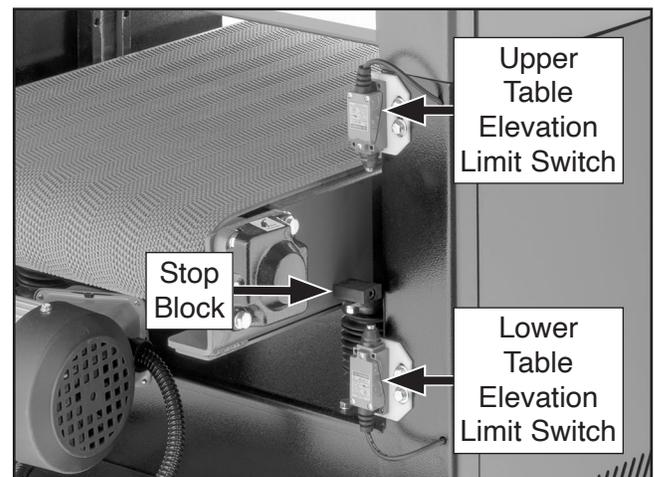
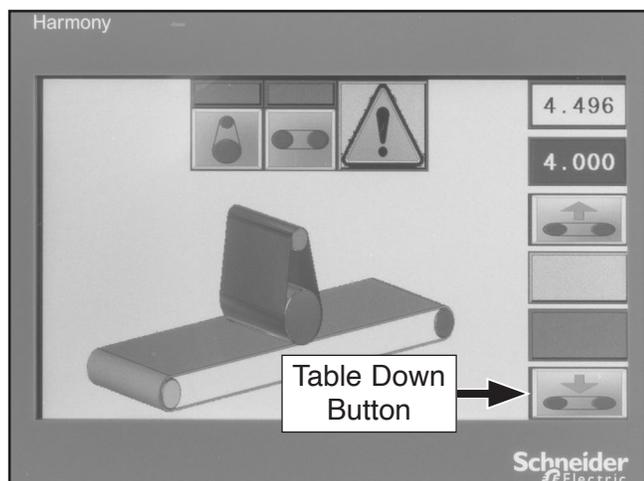

Figure 37. Location of table elevation limit switches and stop block.
Figure 38. Location of table down button.
18. Press and hold table up button. When stop block shown in **Figure 37** presses upper table elevation limit switch, table should stop.
20. Press and hold table down button (see **Figure 38**). When stop block shown in **Figure 37** on **Page 29** presses lower table elevation limit switch, table should stop.